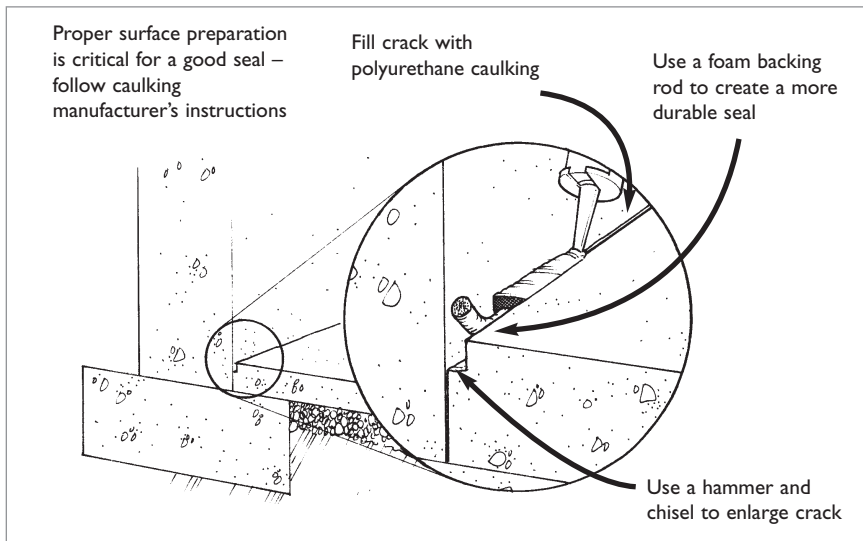
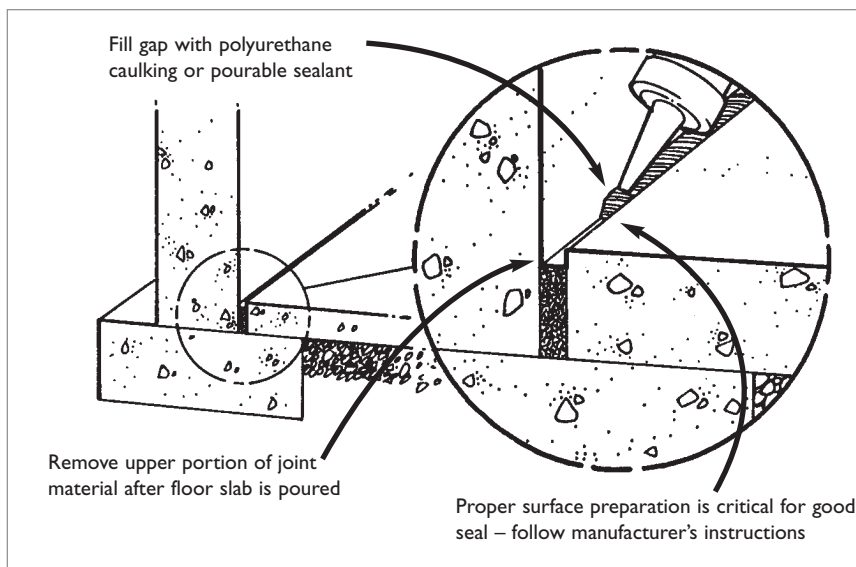

Figure 13: Sealing foundation wall and basement floor joint
Figure 16: Seal foundation wall and basement floor joint in new construction
If accessible, the joint between the foundation wall and basement floor can be sealed (*see* figure 13). The gap around utility penetrations (e.g., water, sewer, electrical, natural gas, fuel oil) in walls and floors can be sealed in a similar manner.
- Seal the basement floor/foundation wall crack. There are several options for sealing this potential radon entry point (see figure 13, page 22 and figure 16, page 26). Note that proper preparation of surfaces to be caulked is critical to obtain an effective, long-lasting seal.